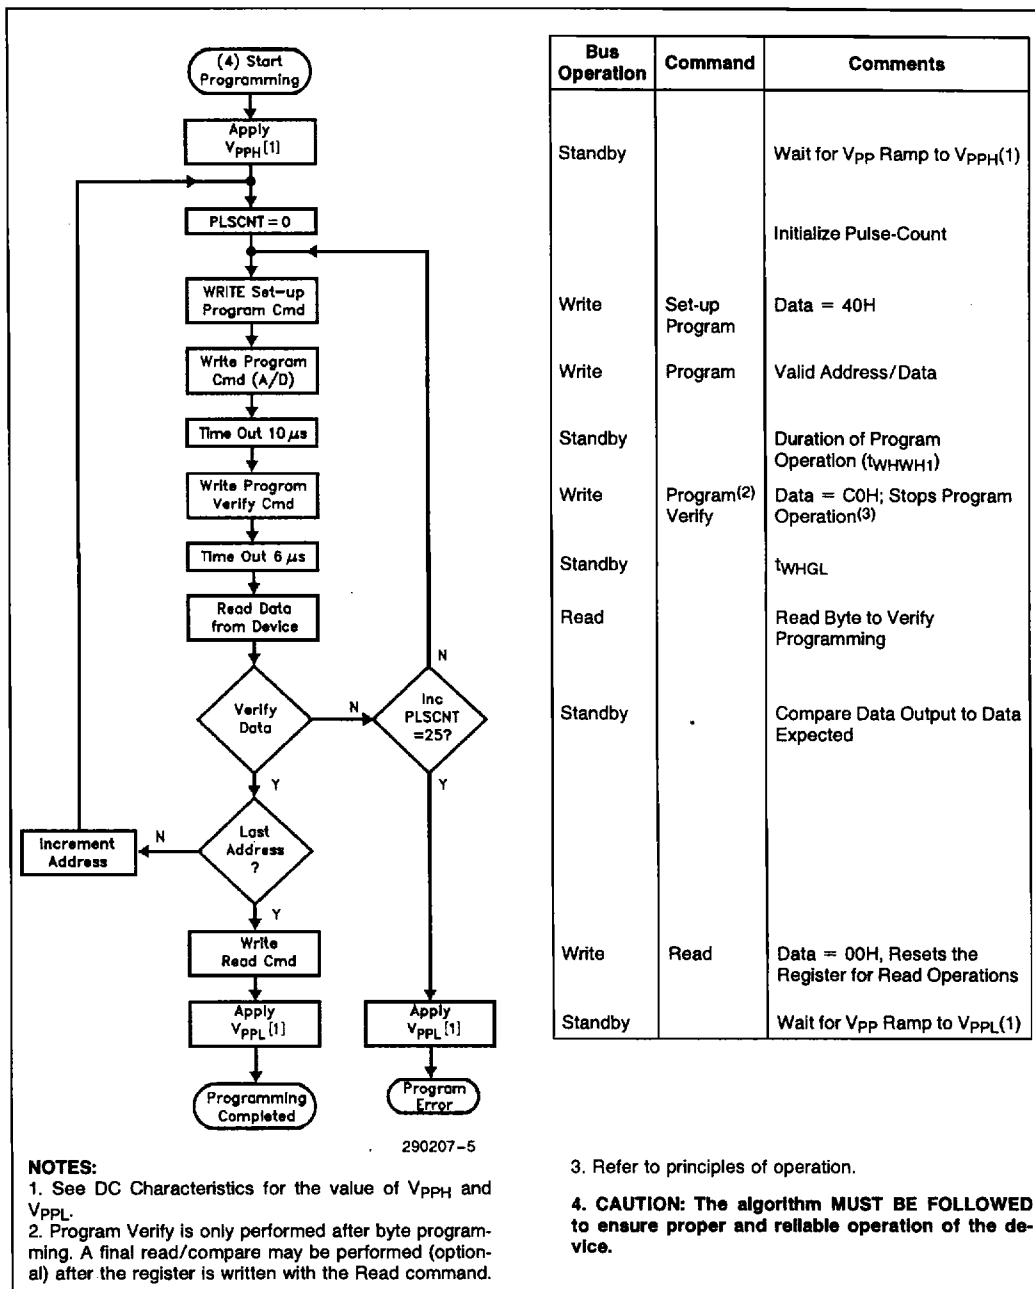

Figure 4. 28F010 Quick Pulse Programming Algorithm
- Figure 4 illustrates the Quick Pulse Programming Algorithm.
The Quick Pulse Programming algorithm uses programming operations of 10 μ s duration. Each operation is followed by a byte verification to determine when the addressed byte has been successfully programmed. The algorithm allows for up to 25 programming operations per byte, although most bytes verify on the first or second operation. The entire sequence of programming and byte verification is performed with Vpp at high voltage. Figure 4 illustrates the Quick Pulse Programming algorithm.